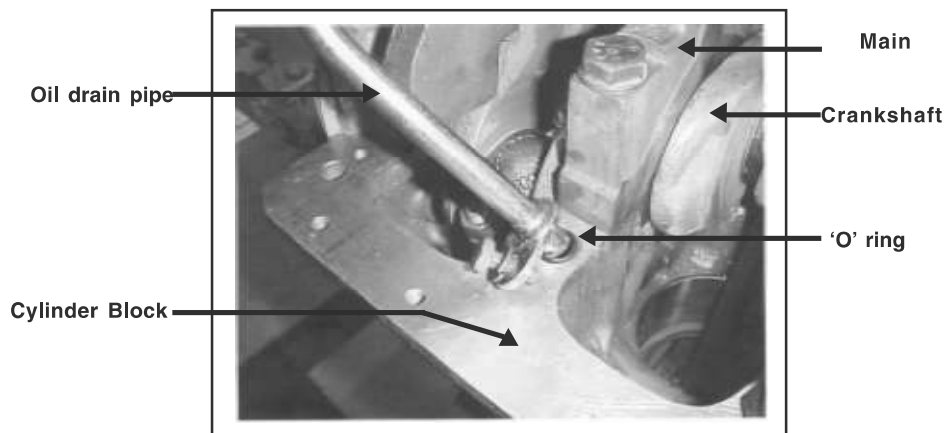

Fig. L 8 – Closed Breather Oil Drain Pipe
- < Perfect sealing is required between oil drain pipe 'O' ring and cylinder block machined surface as shown in Fig. L 8.